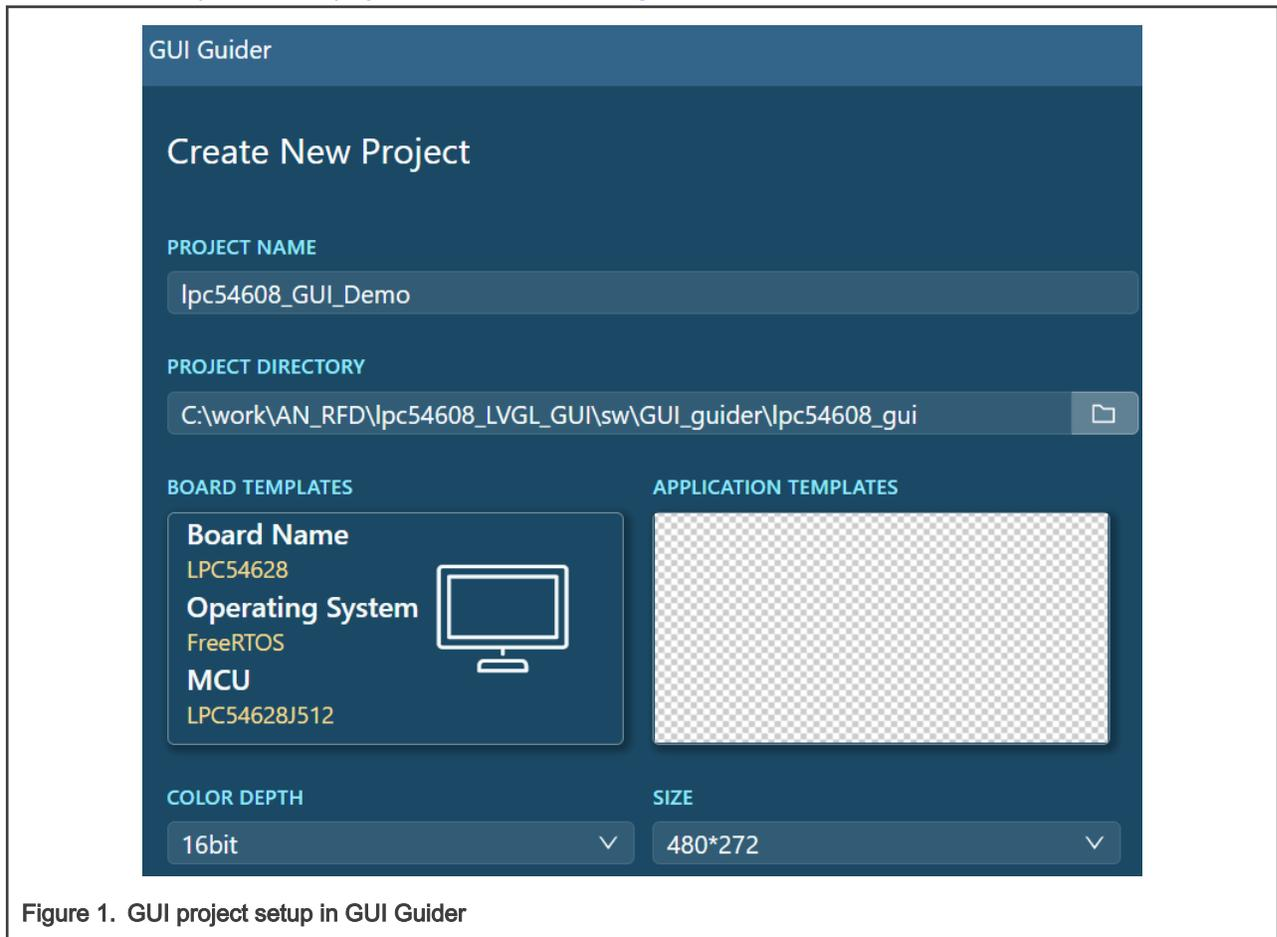

Figure 1. GUI project setup in GUI Guider
1. Create GUI project: Create a GUI project with LPC54628 board template and empty application template in GUI Guider. For the basic setup of the GUI project in GUI Guider, see Figure 1.